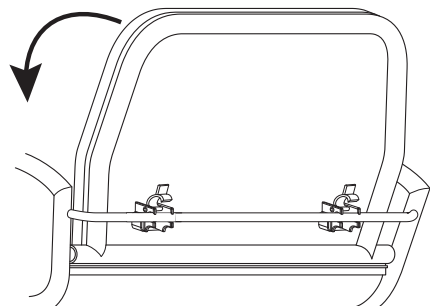

Fig. 6
2. Fold the backrest forward onto the seat cushion for transport. (Fig. 6)